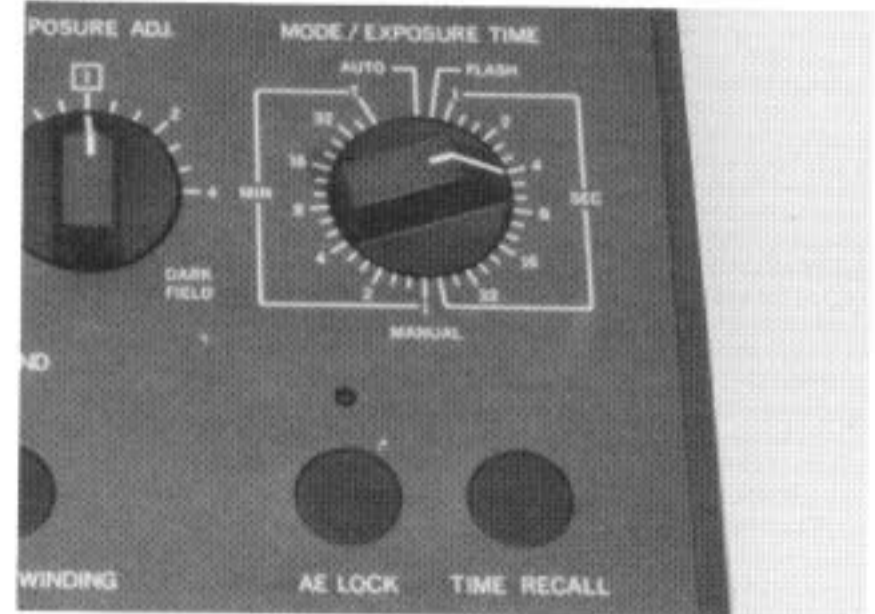

Fig. 26
- 1) Select shutter speed from 1 sec. through 40 min. on the mode selector switch (MODE/EXPOSURE TIME). (Fig. 26)